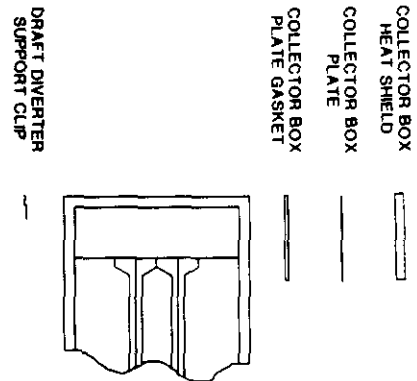

Figure 25 (4-022)
- a. Remove draft diverter support clip as shown in Figure 25 and all screws from collector box outlet on rear of furnace. Save screws for reinstallation.
- b. Carefully remove collector box heat shield, cover plate and fiberglass gasket from furnace. See Figure 25. Save screws. Properly align gasket, then install all on rear of furnace.